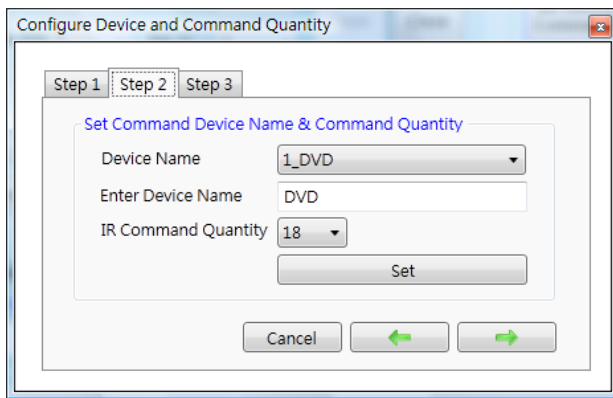

Fig. 3-3 Step 2 for device name & IR cmd Qty. **Fig. 3-4** Step 3 for IR command names.
Step 2: Set device name and the IR command quantity for the device (Fig. 3-3).